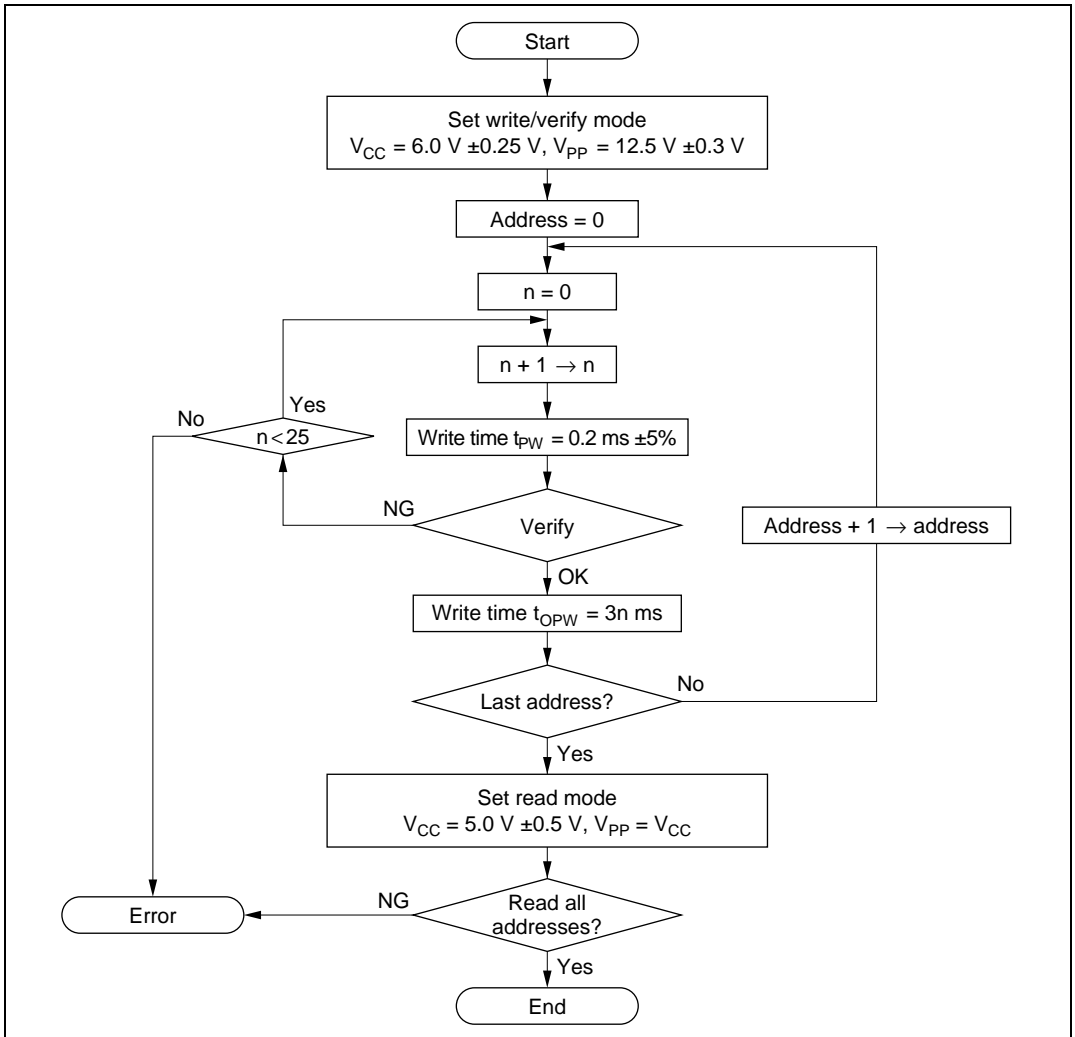

Figure 6.3 High-Speed, High-Reliability Programming Flow Chart
An efficient, high-speed, high-reliability method is available for writing and verifying the PROM data. This method achieves high speed without voltage stress on the device and without lowering the reliability of written data. Data in unused address areas has a value of H'FF. The basic flow of this high-speed, high-reliability programming method is shown in figure 6.3.
3. t_{OPW} is defined by the value given in figure 6.3, High-Speed, High-Reliability Programming Flow Chart.